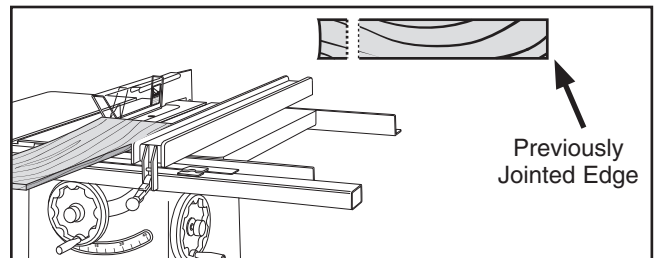

Figure 24. Rip cutting on a table saw.
4. **Rip Cut on a Table Saw:** The jointed edge of the workpiece is placed against the table saw fence and the opposite edge is cut off (see **Figure 24**).